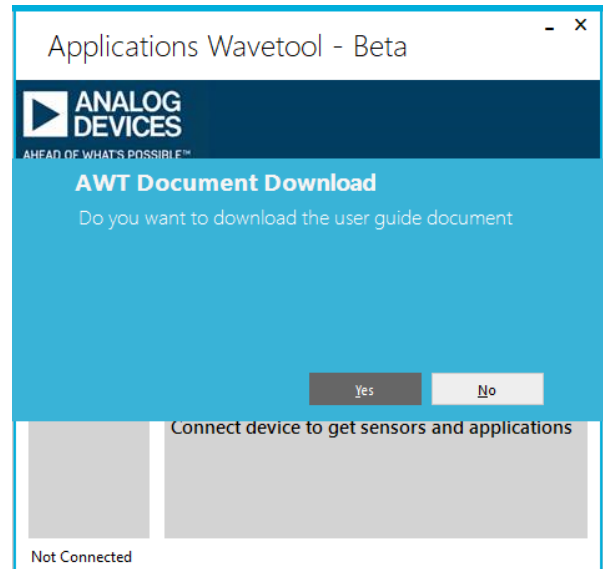

Figure 3. *AWT Document* Download Prompt
After installing the Wavetool Evaluation Software, download the **AWT Document**, a user manual for the Wavetool Evaluation Software (see Figure 3), which allows online access to the document as well as the hardware setup. The **AWT Document** contains videos that show the following:
2. If this is the first time opening the Wavetool Evaluation Software, users are prompted to download the **AWT Document** as shown in Figure 3.